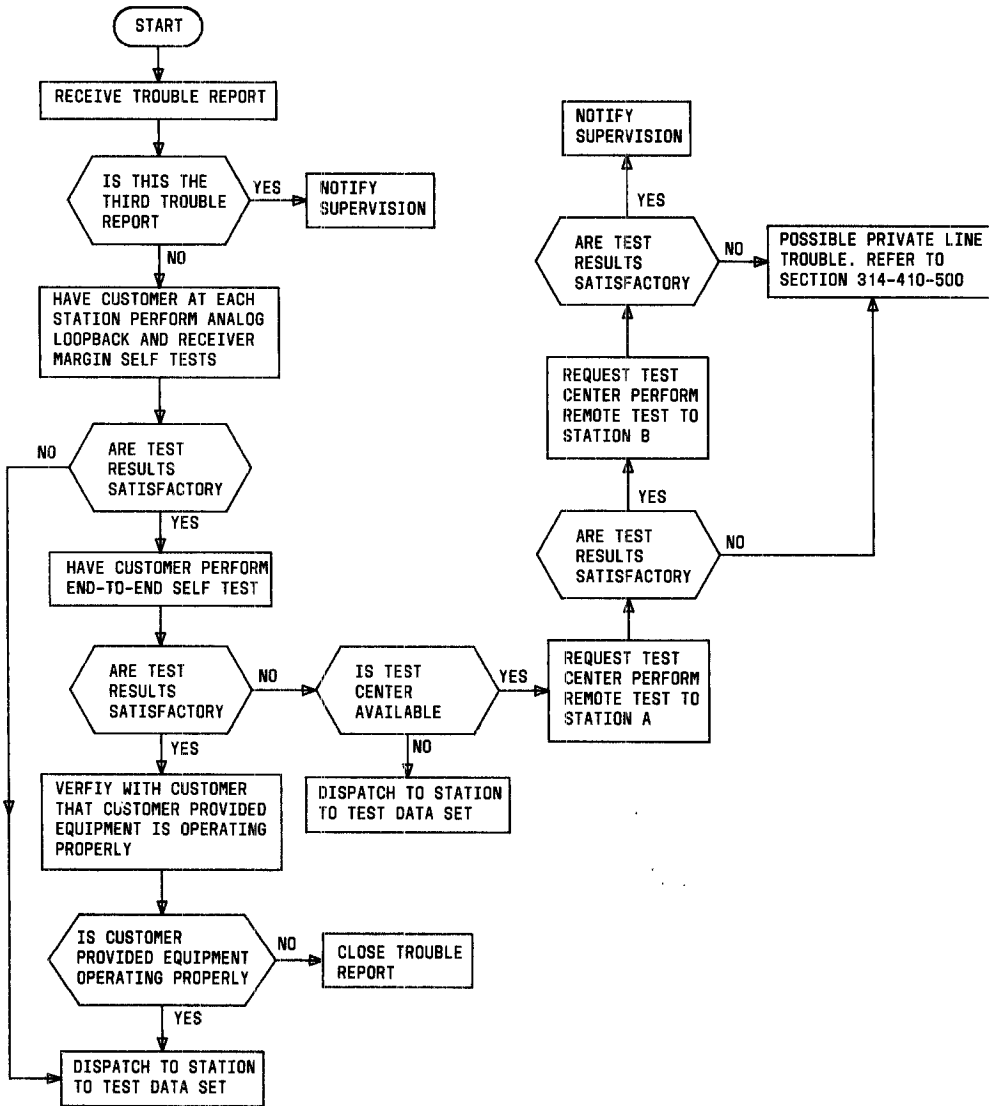
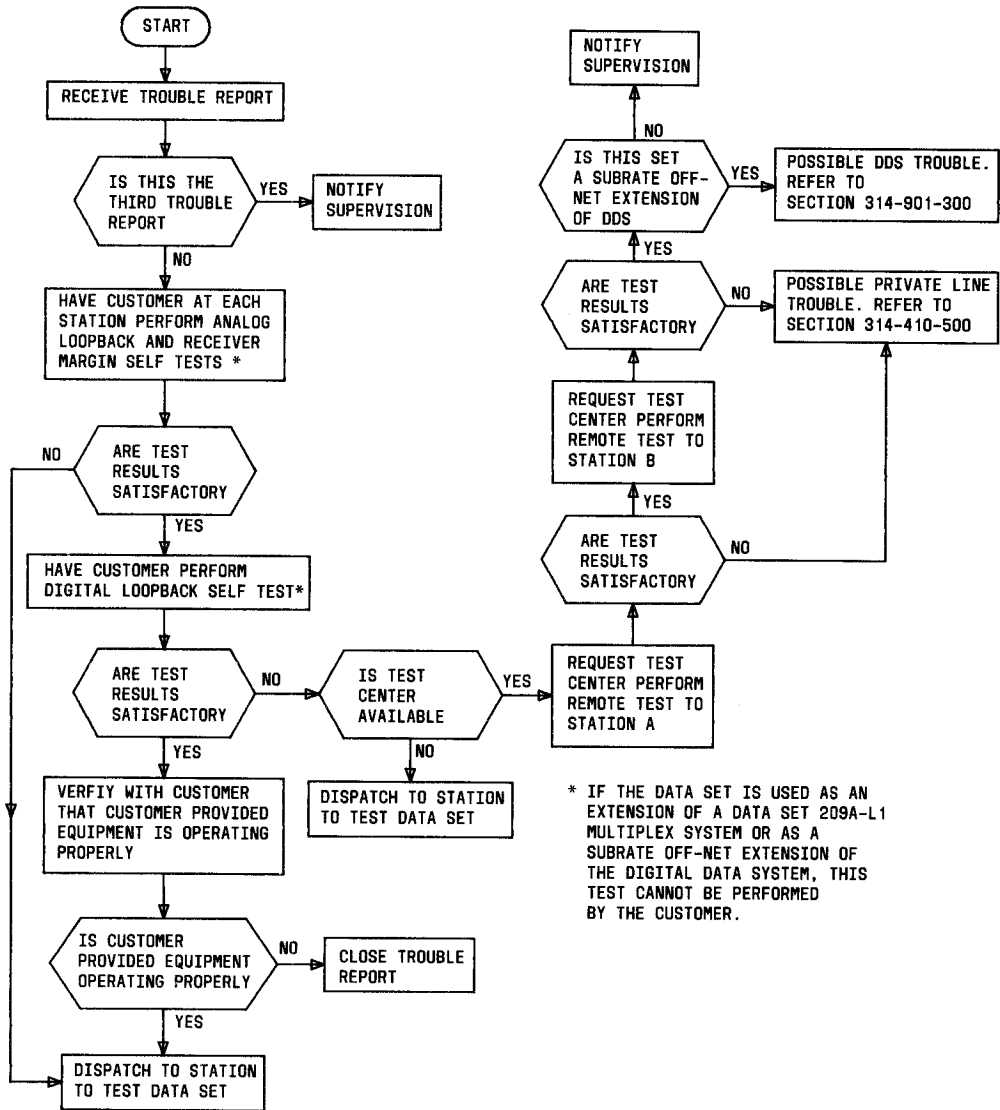

Fig. 4—Clearing Trouble Report (2-Wire Private Line)
Fig. 5—Clearing Trouble Report (4-Wire Private Line)
**3.02** When a trouble report is received, a test center is responsible for isolating the trouble to the data station or the transmission facility. The procedure for doing this is shown in Fig. 4 (2-wire private line) and Fig. 5 (4-wire private line).